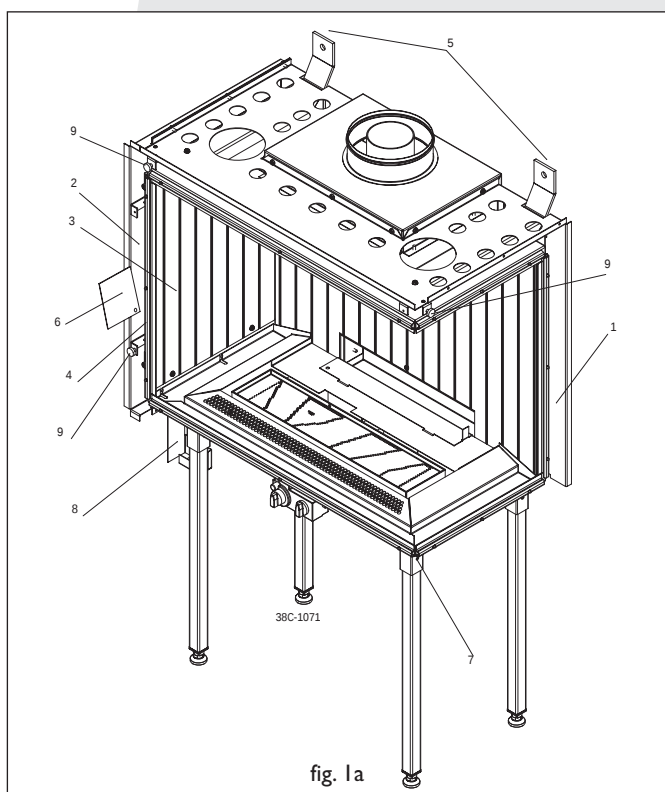

fig. 1a
If you have bought an interior with a side pane on the right, position the magnets as in fig. 1a (9). If you have an interior with a side pane on the left, position the magnets in the exact position.
Do this as follows (see fig. 1a):
If you have bought a front for an interior with a window on the right, and the interior has been assembled with a window on the left, the interior will first have to be converted, as above but then the exact opposite. Fit the receiver tray (8) to the cover on the back/side (2), see fig. 1a and c.